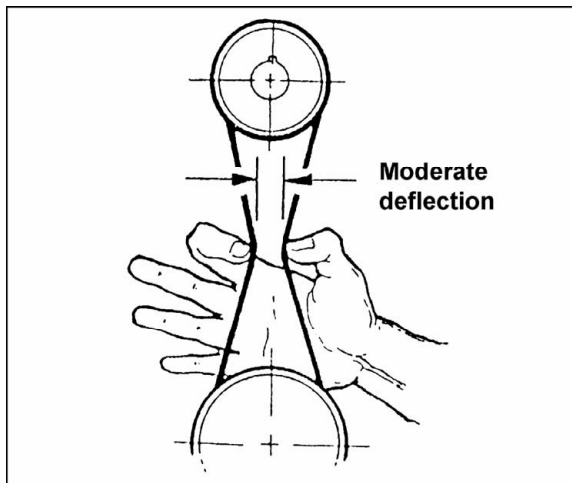

Figure 7
4. Let the motor slide down and push down on it until the belt is properly tensioned. NOTE: There should be only moderate deflection in the belt midway between the pulleys when using light finger pressure (Figure 7).